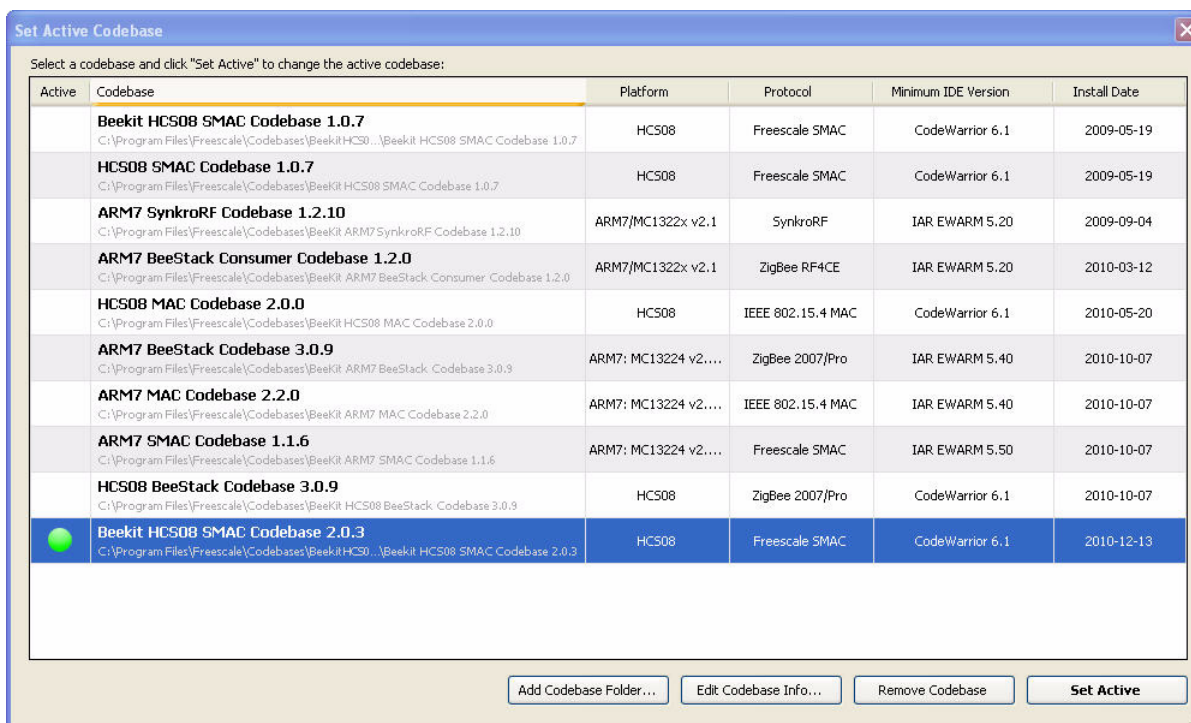

Figure 1-3. selecting SMAC Codebase
The Set Active Codebase window appears as shown in Figure 1-3.
3. Select the appropriate SMAC Codebase as shown in Figure 1-3.